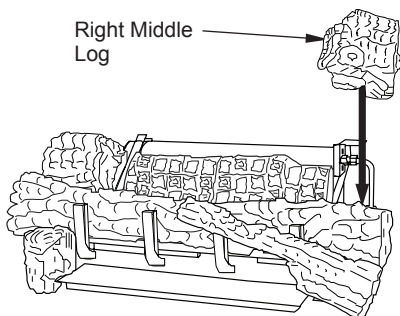

Figure 42 - Installing Right Middle Log
7. The right middle log (18" D-067, 24" & 30" D-041) has a groove on the bottom to sit on the chassis and has to sit on the tab on the back of the right front. The right middle log should have a recessed area that fits around the ramp log as shown in Figure 42.